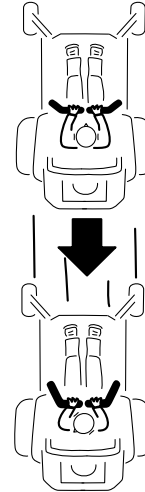

Figure 16
2. To go backward, look behind you and down, as you slowly pull the motion-control levers rearward (Figure 16).
To go straight, apply equal pressure to both motion-control levers (Figure 16).